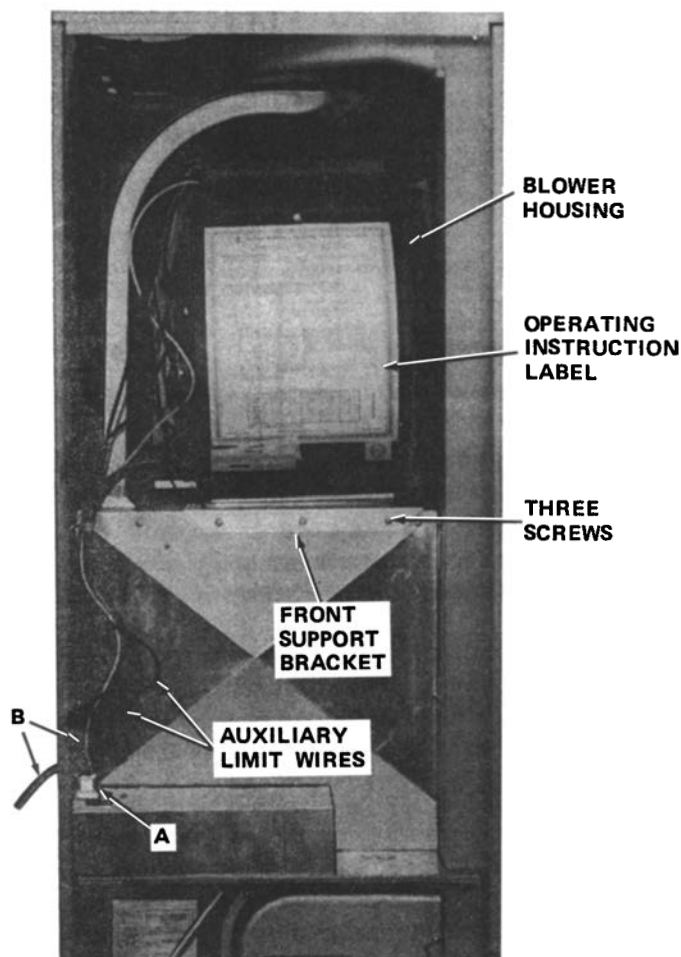

FIGURE 5. COLEMAN FURNACE WITH NORDYNE BLOWER INSTALLED
1. Refer to FIGURE 5 and slide the Blower into the Coleman furnace and secure it to the air casing with the three screws previously removed in Step 3d.
3. Insert polarized plug (A) into the furnace control panel receptacle. Clasp tabs of the plug should snap into place locking the plug into the receptacle.
4. Route the two low-voltage leads (B) down through hole in the partition panel.